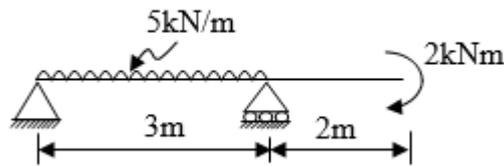

fig.1
- (c) Draw Shear force and Bending Moment diagram for the beam shown in fig. 1 **07**